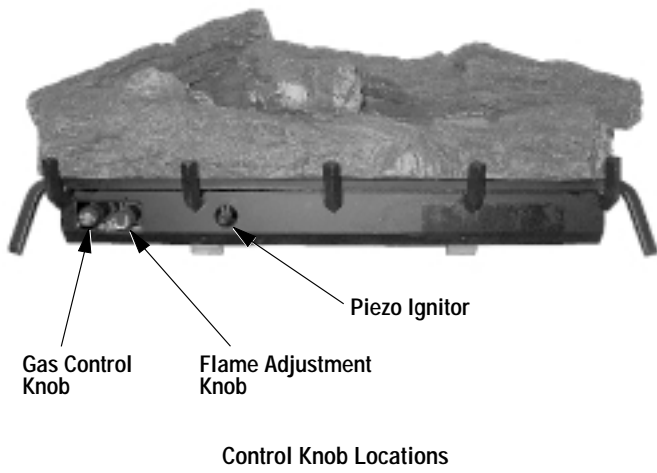

Figure 13
3. Locate gas control knob and piezo (*Figure 13*).